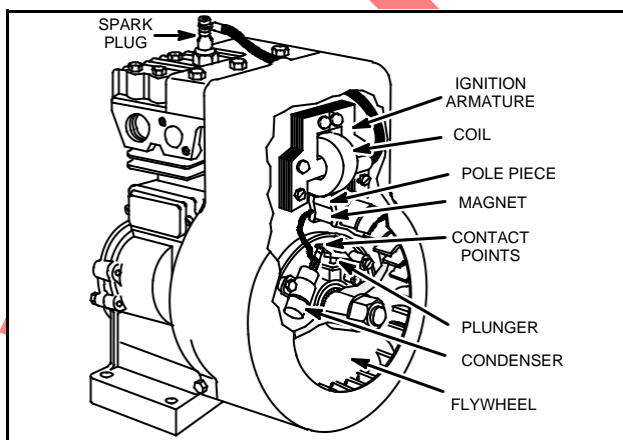

Fig. 77 – BREAKER POINT IGNITION
1. Breaker point ignition, using either internally or externally mounted breaker points, ignition armature and flywheel, Fig. 77.